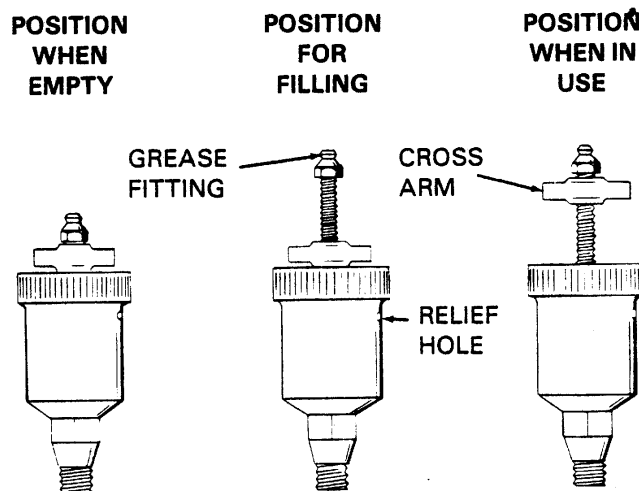

Figure 3. Automatic Lubricating Grease Cup
Before removing the seal assembly, turn the cross arm on the seal grease cup (9) clockwise until it rests against the cover (see figure 3). This will prevent the grease in the cup from escaping after the seal is removed.
Before starting the pump, fill the seal grease cup through the grease fitting with a good grade of No. 2 pressure gun grease until grease escapes from the relief hole. Turn the grease cup arm counterclockwise until it is at the top of the stem; this will release the spring to apply grease to the seal (see figure 3).